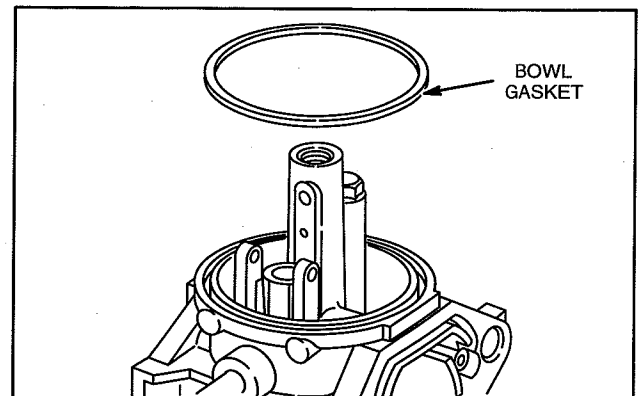

Fig. 7 – Removing Bowl Gasket
3. Remove carburetor bowl gasket, Fig. 7.